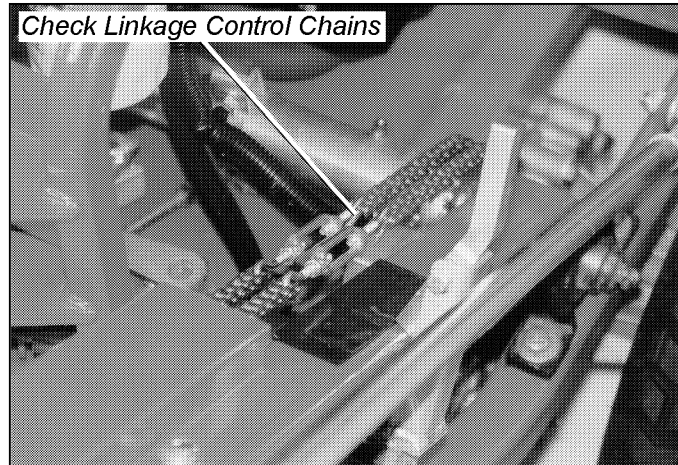

Figure 2
1. Be sure both linkage control chains are firm (*Figure 2*). If they are not firm and need to be adjusted, use a 3/8" wrench and pliers to tighten the nuts. Do not over tighten.